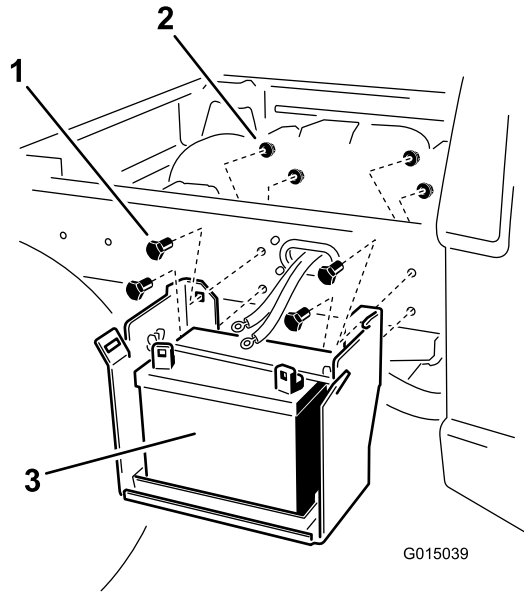

Figure 5
4. Remove the fasteners securing the battery and bracket assembly to the machine frame (Figure 5).